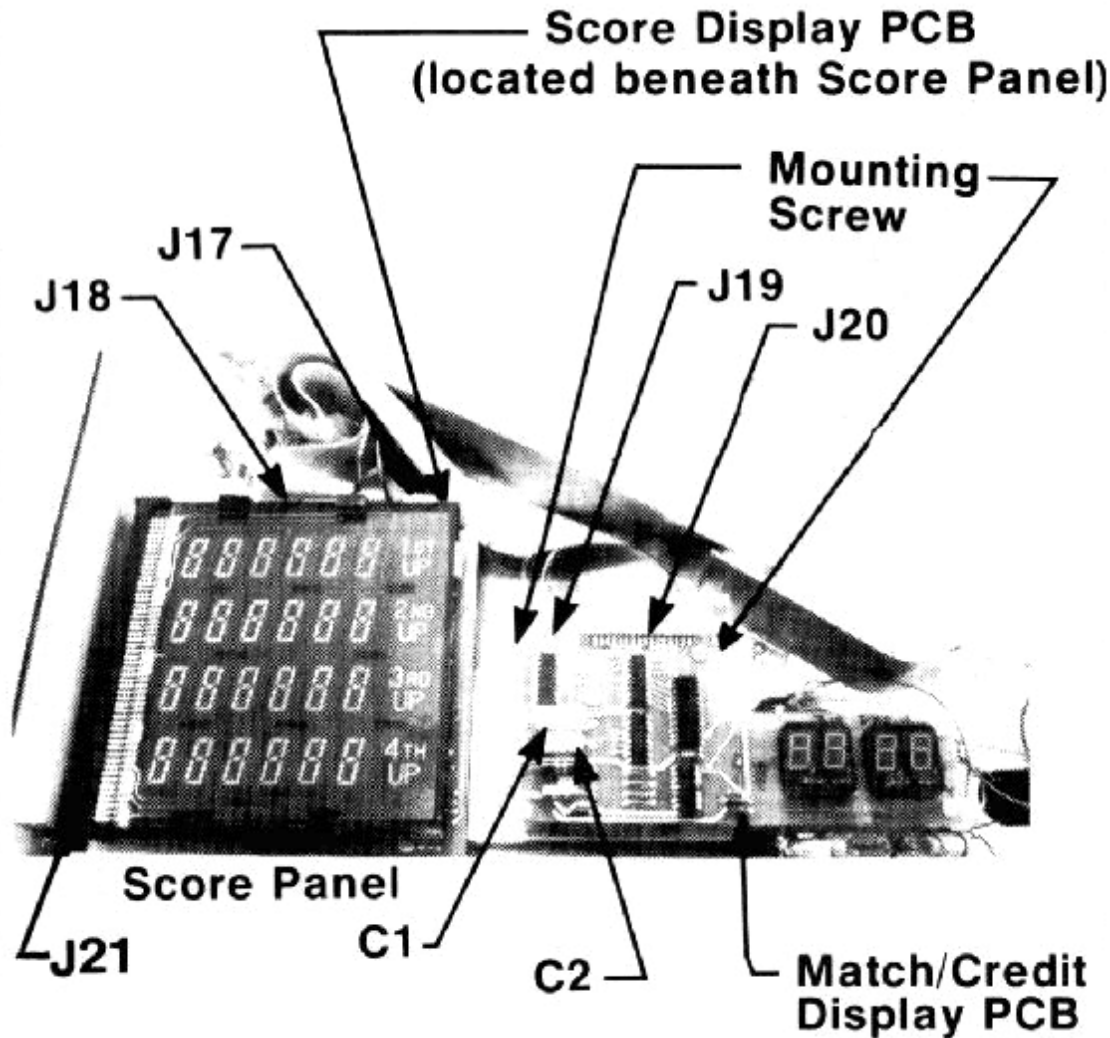

Figure 16: Top View of Score and Match/Credit Display Assembly
3. Connect a voltmeter across the following capacitors shown in Figure 16, and check for the readings listed below: